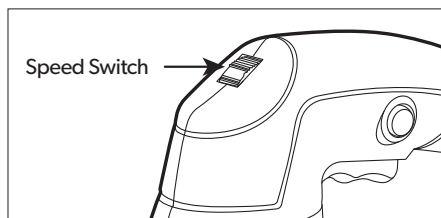

Figure 3
2. To adjust speed, turn the Speed Switch from 1 (the slowest speed) to 6 (the fastest speed). See Figure 3, below.